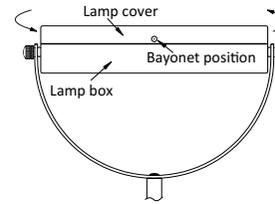

Fig. 1 Side View
1. Open the mirror by rotating the lamp cover 10-12mm counter-clockwise (Fig. 1 & 2).